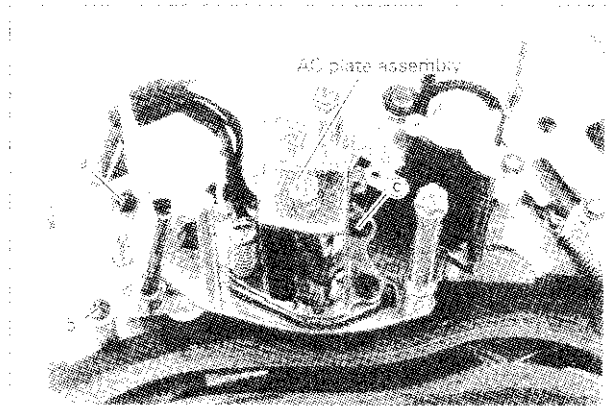

Fig. 3-21-12
- (1) Turn the gear LA5 clockwise to change the supply & Takeup tape guide to loading mode.
- (2) Attach the AC plate assembly to the main plate and fix with 3 fixing screws (a, b, c) (Fig. 3-21-12).